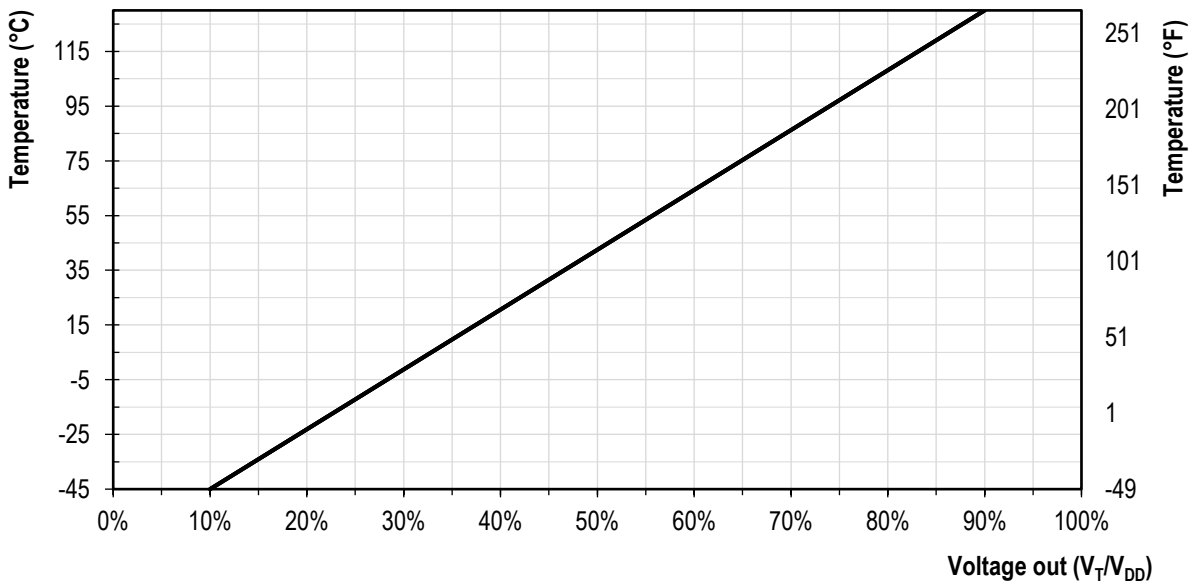

**Figure 9** Relationship between the ratiometric analog voltage output and the measured relative humidity.
This allows to describe the relationship between physical values (RH and T) and the voltage output for temperature and humidity ( $V_T$ ,  $V_{RH}$ ) through a generic linear formula given by equations (1), (2) and (3); its graphical representation can be found in Figure 9 & Figure 10.